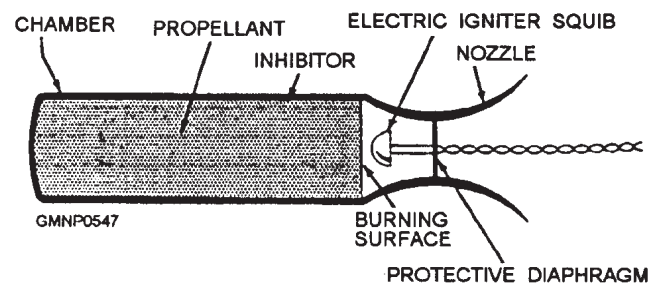

Figure 9-20.—Components of a solid-fuel rocket motor, with end burning grain.
motors. The major elements of such propulsion units include (1) propellant, (2) combustion chamber, (3) igniter or squib, and (4) exhaust nozzle (fig. 9-20).